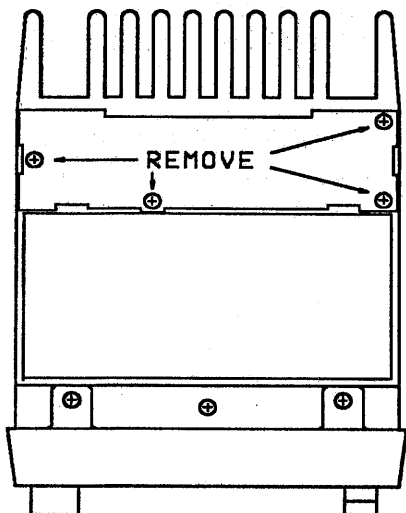

FIGURE 1
3. Remove the shield plate from the VHF Final unit (4 screws). **Figure 1**